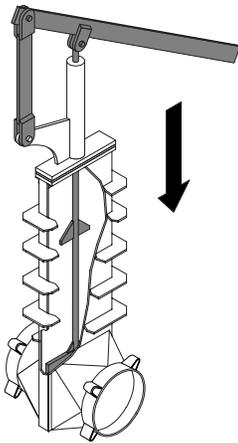

fig. 1
**IMPORTANT:** If there is a manual safety guillotine on the evacuation line, you must first close it — *fig. 1*. If not, always ensure the other guillotine is properly closed.
To dismantle the hopper guillotine, ensure the outlet guillotine or the manual safety guillotine is properly closed — *fig. 1 or 4*.
To dismantle the outlet guillotine, ensure the hopper guillotine or the manual safety guillotine is properly closed — *fig. 1 or 3*.